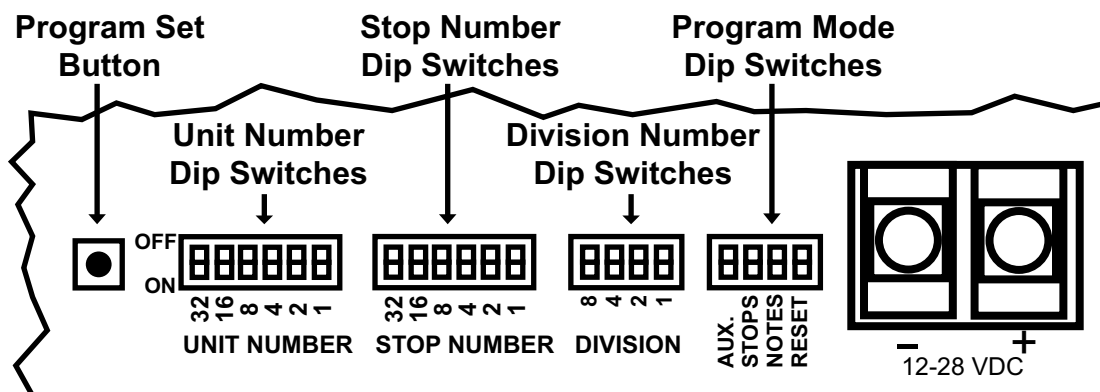

Figure 5.3 “Driver-Board-Programming-DIPs”
2. On the Program Mode Dip Switches, see figure 5.3 “Driver-Board-Programming-DIPs,” set the STOPS Switch to ON(closed) The AUX., NOTES and RESET Switches must be OFF (open).